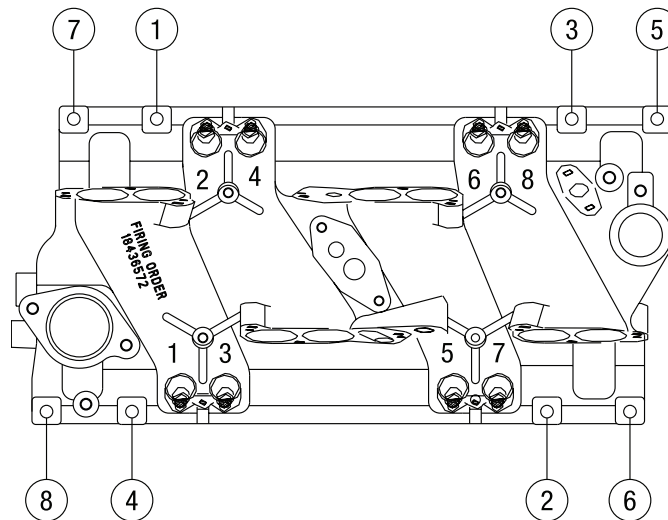

Figure 2 - Intake manifold tightening sequence
- Install baseplate on engine and replace all connections. See Figure 2 for proper bolt tightening sequence and torque all circled bolts to 11 ft./lbs.
Torque all bolts circled in Figure 2 to 11 ft./lbs. **See Figure 2 for proper sequence.**